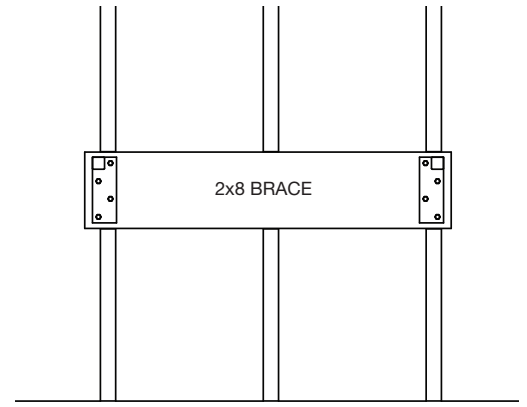

Figure 1.
- Provide suitable 2x8 horizontal brace at least 36" long, notched and flush to exposed studs where the drawer will be mounted. **Figure 1.**